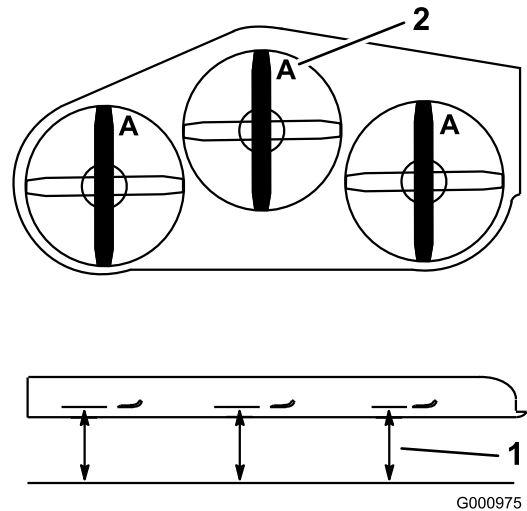

Figure 94
4. Measure from a level surface to the cutting edge, position **A**, of the blades (Figure 94).